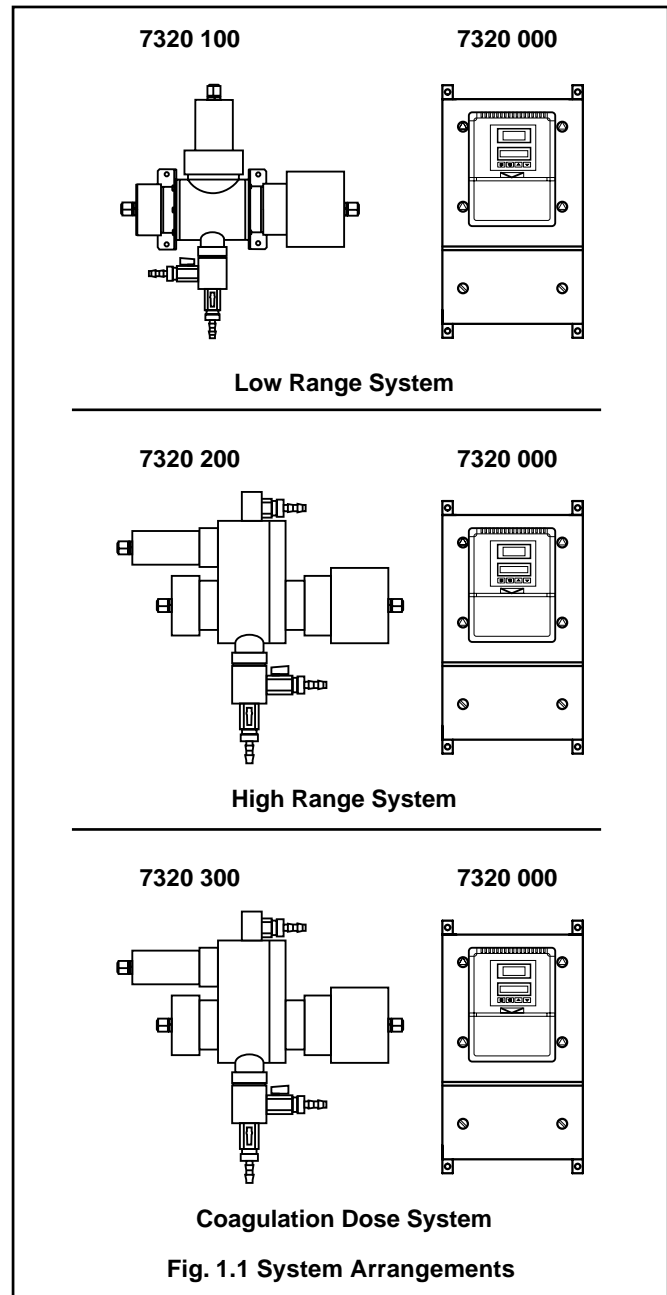

Fig. 1.1 System Arrangements
1.3 7320 Series Systems – Fig. 1.1